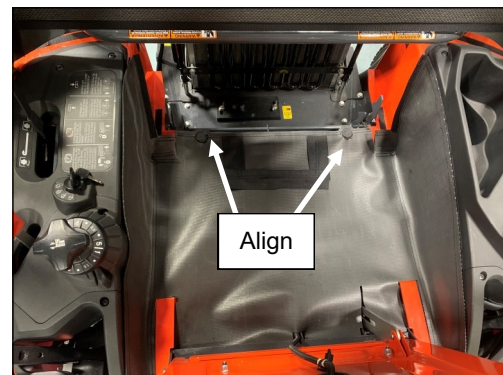

Fig. 10.1 (Install Underseat Filler)
- 10.1 See fig. 10.1. Raise the seat and install the rubber underseat filler panel as shown. Start by aligning the panel over the round rubber bumpers that the seat rests on and work around the perimeter to attach to the pre-installed Velcro.